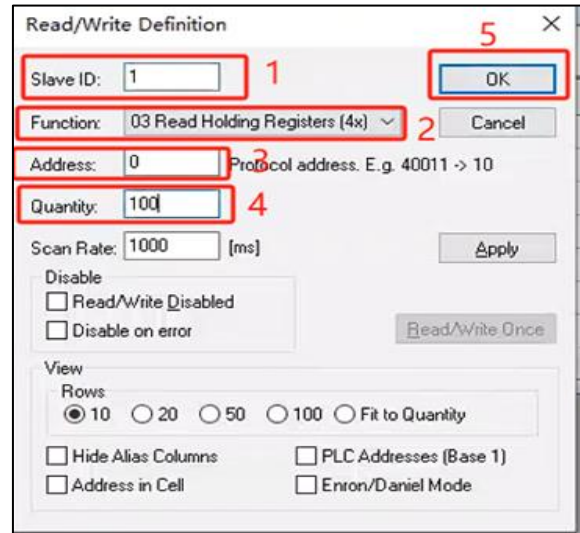

Figure 2
■ Read/Write Definition (As shown in figure 2)
- Read/Write Definition (As shown in figure 2)